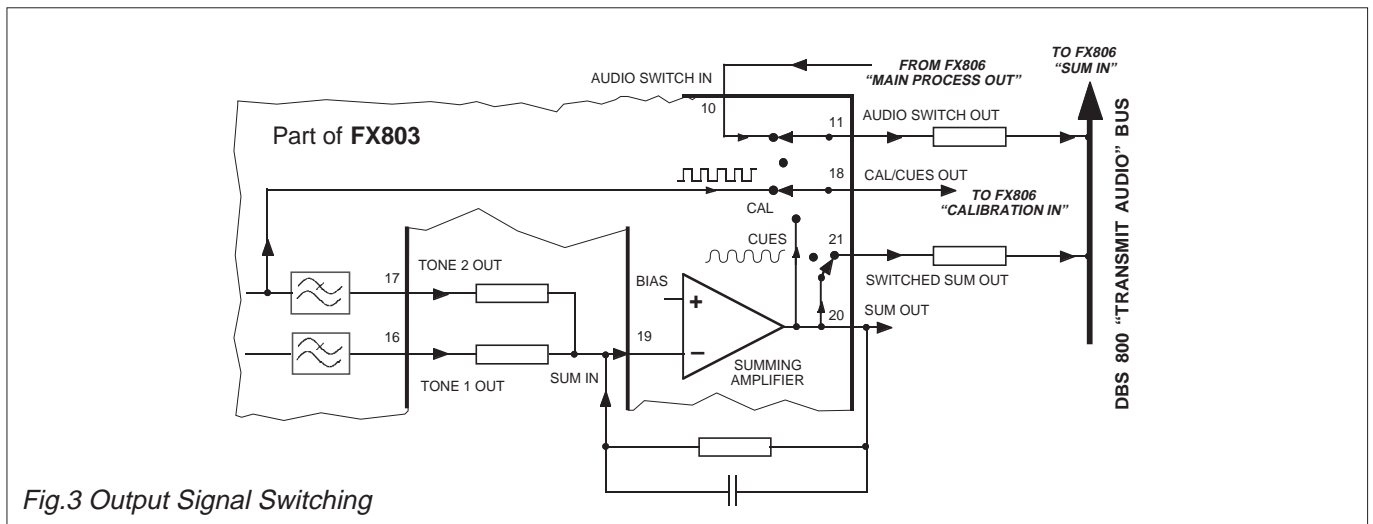

Fig.3 Output Signal Switching
3. Resistors marked with an asterisk (*) are System Components, calculated to operate in a system with other DBS 800 microcircuits. Figure 3 shows in detail, these components used in the System signal paths. R₃, R₄, R₅, C₅ – Tone mixing components to provide a 3dB tone-differential (twist) when used in a DTMF configuration. Single tone output levels are set independently or by the FX806 Modulator Drivers. R₇ – Modulation level and matching for inputs to the FX806A.
See the Signal Switching diagram (Figure 3) and DBS 800 Document for application examples.
To break the FX803 drive to the FX806 PLMR Audio Processor (see Figure 3, Signal Switching).